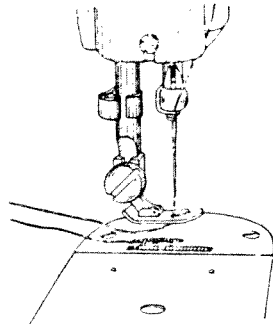

Fig. 10
3. Lay both threads back under the presser foot (Fig. 10).